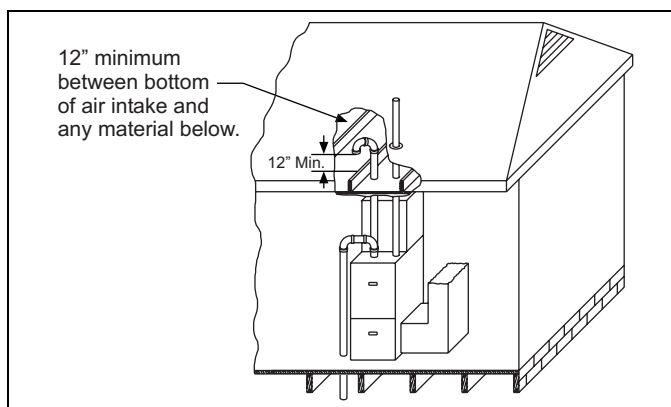

FIGURE 37: Attic and Crawl Space Combustion Air Termination
3. **VENTILATED COMBUSTION AIR:** Combustion air is supplied through a PVC or ABS pipe that is connected to the PVC coupling attached to the burner box and is terminated in a ventilated attic or crawl space. The combustion air and the vent pipes are not terminated in the same atmospheric zone. Refer to Figure 37 for attic and crawl space termination. Only the combustion air intake may terminate in the attic. The vent must terminate outside.
Refer to Figure 37, "Attic and Crawl Space Combustion Air Termination" for required attic termination for the combustion air intake pipe. For attic termination, use two 90° elbows with the open end in a downward position. Be sure to maintain 12" (30 cm) clearance above any insulation, flooring or other material.